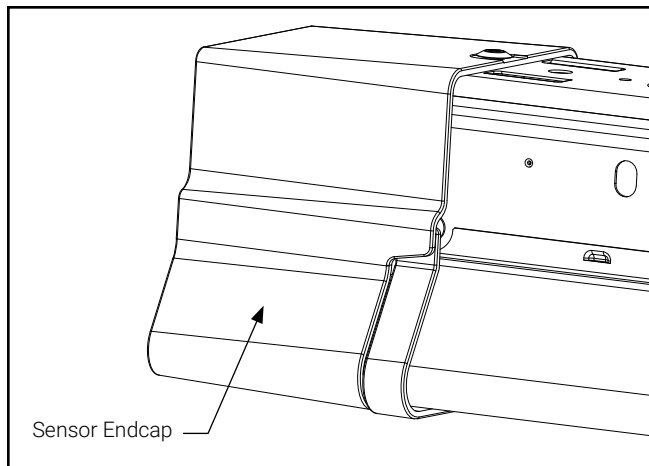

Figure 1.
1. If the fixture already has a sensor end cap installed, only 1 decorative endcap will be installed (Figure 1).